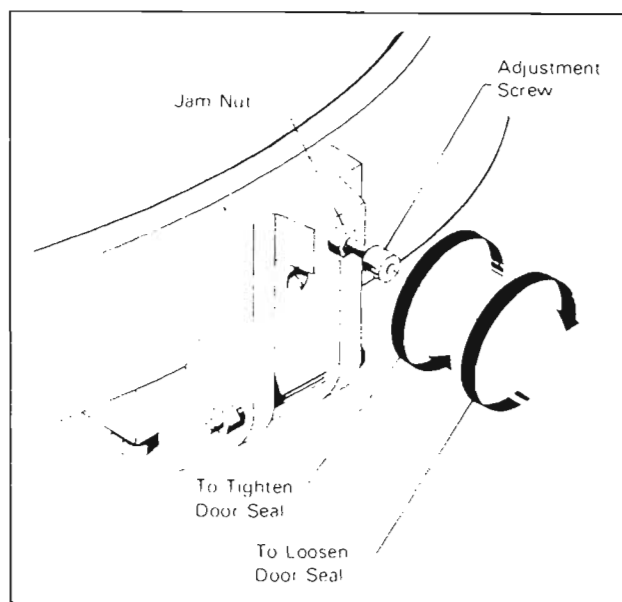

Figure 6-4. Door Seal Tension Adjustment
**6.3.1.2 Door Seal Tension Adjustment.** An adjustment screw is built into the door anchor and fulcrum assembly to allow compensation for normal variation in gasket thickness caused by wear. The adjustment screw is shown in Figure 6-4. If steam escapes from around the door, sealing tension against the door opening can be increased by loosening the 1/4-20 jam nut and